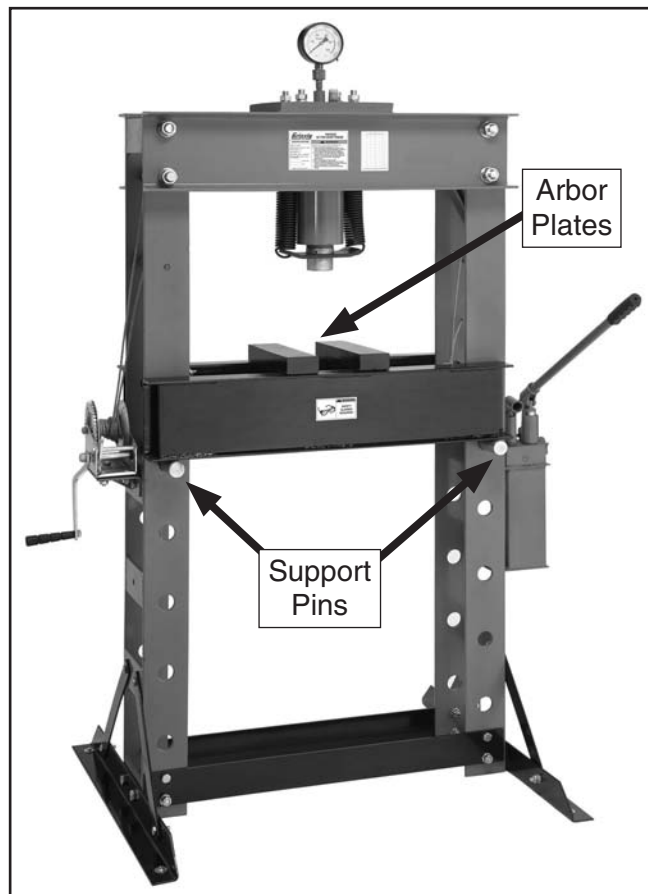

Figure 12. Typical arbor plate positioning.
16. Position the bed with the bed support pins, and place the arbor plates on the bed, as shown in **Figure 12**.